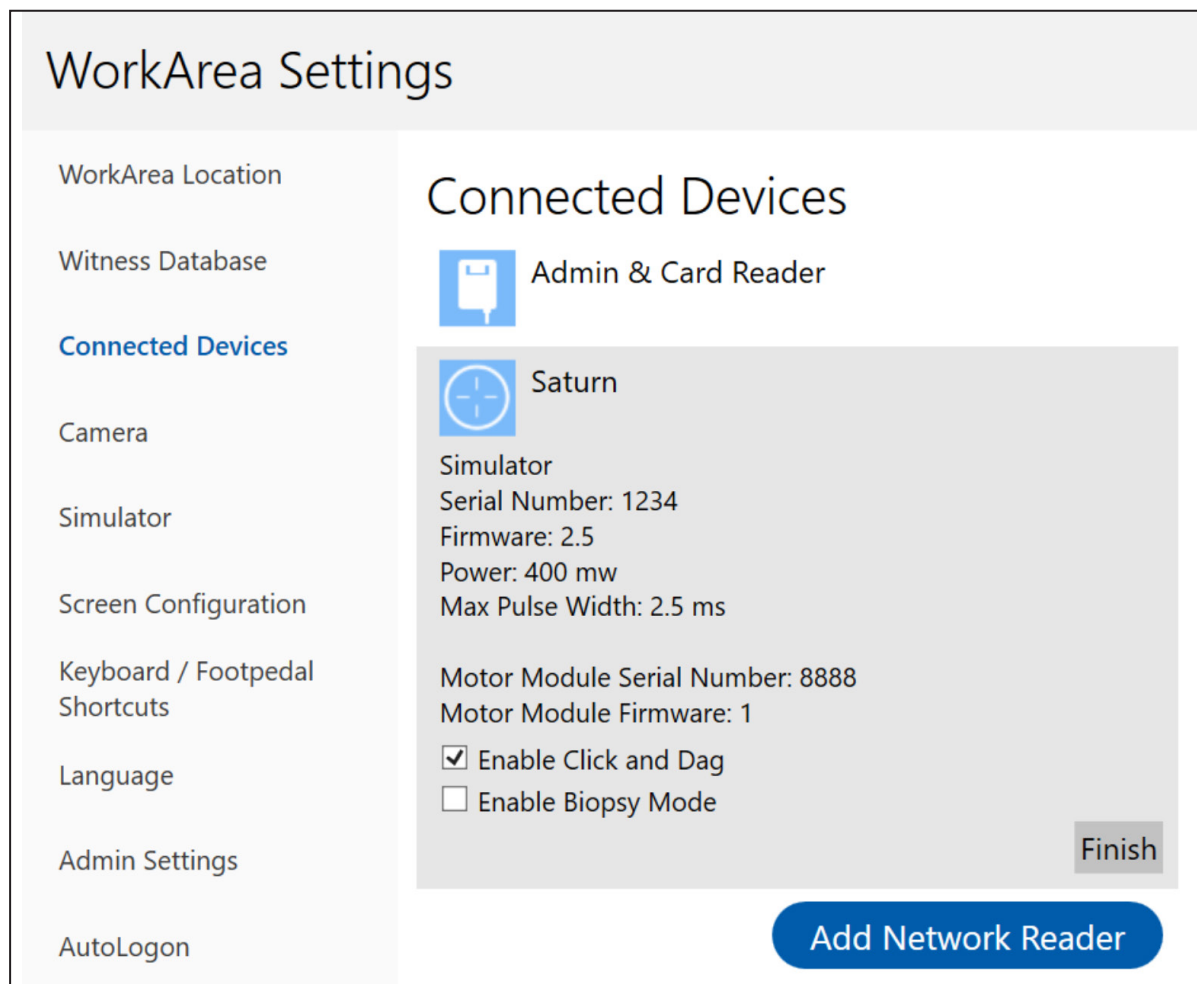

Figure 7-5 Saturn™ Laser System Information
5. Press Settings. See Figure 7-5